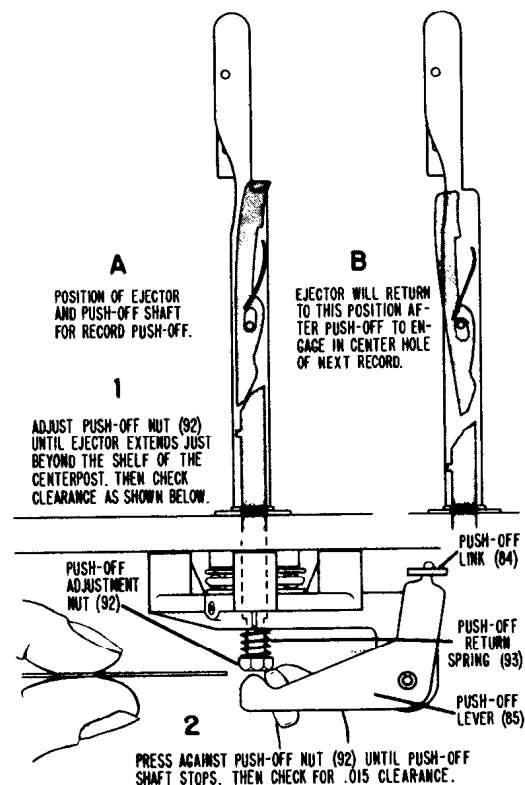

Figure 9. Adjusting for Correct Push-Off.
When the tone arm is clear of the turntable, the roller on the drive eccentric (82) engages the push-off link (84). The push-off link moves the push-off lever (85) which engages the push-off adjustment nut (92) on the end of the push-off shaft in the centerpost. As the push-off link is moved by the drive eccentric, the push-off lever moves the push-off shaft up into the centerpost. The push-off shaft engages the ejector and pushes it up and out at the shelf of the centerpost. See figure 9.
Ejector travel is adjusted by the hexagonal adjustment nut (92). With proper push-off adjustment, the ejector should extend just slightly beyond the edge of the shelf on the centerpost. See figure 9.
2. Continue rotating turntable slowly until the roller on the drive eccentric (82) engages the push-off link (84). Rotate turntable until the roller has moved the link its full distance. The push-off lever (85) is now extended its maximum travel.
3. Check the position of the ejector at the shelf of the centerpost. The ejector should extend *just beyond* the edge of the shelf. See figure 9. If the ejector does not extend beyond the edge of the shelf, turn the push-off adjustment nut (92) counterclockwise to increase the amount of push-off. Use a $\frac{1}{4}$ " open-end wrench for this adjustment.
2. Check for weak push-off return spring (93).
3. Check the push-off adjustment. See figure 9.